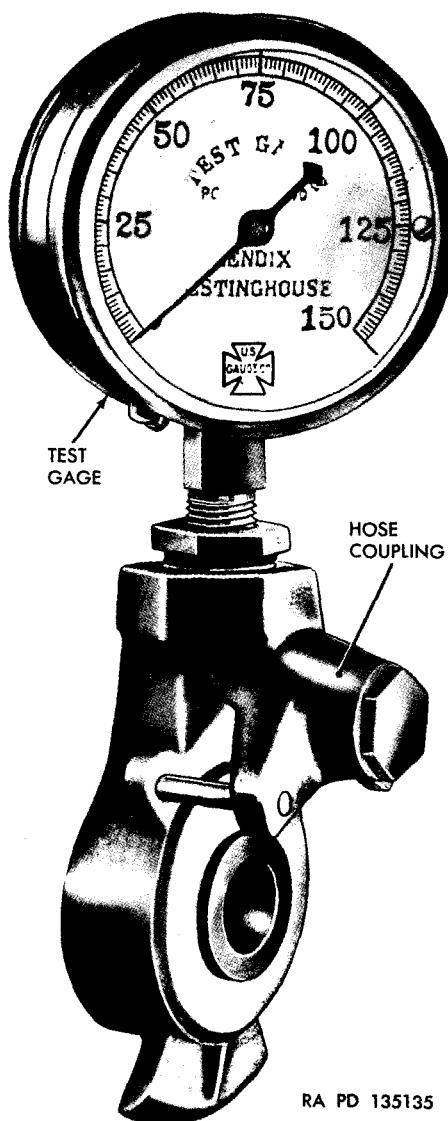

Figure 213. Test gage.
d. Test gages merely differ from ordinary dash gages in that they are more accurate over their entire range and maintain their accuracy over longer periods. A typical test gage is illustrated in figure 213.